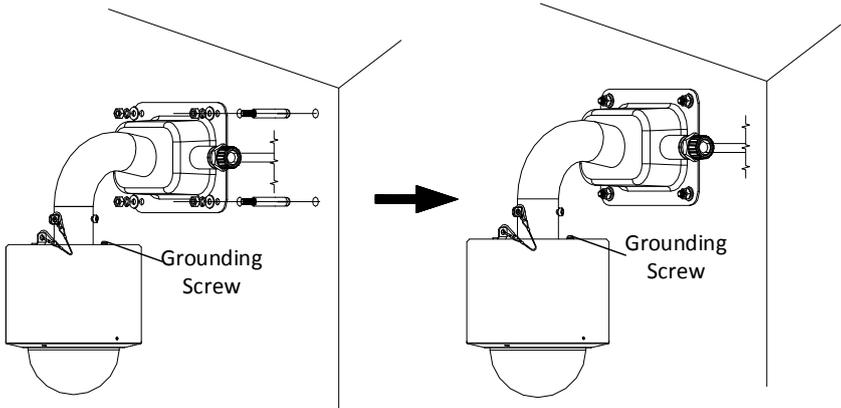

Figure 2-7 Mount the Bracket and Device
3. Fix the mounting bracket onto the wall by inserting the four expansion screws. Insert the flat washer and the spring washer. Then tighten the four screws to secure the installation plate as shown in Figure 2-7.